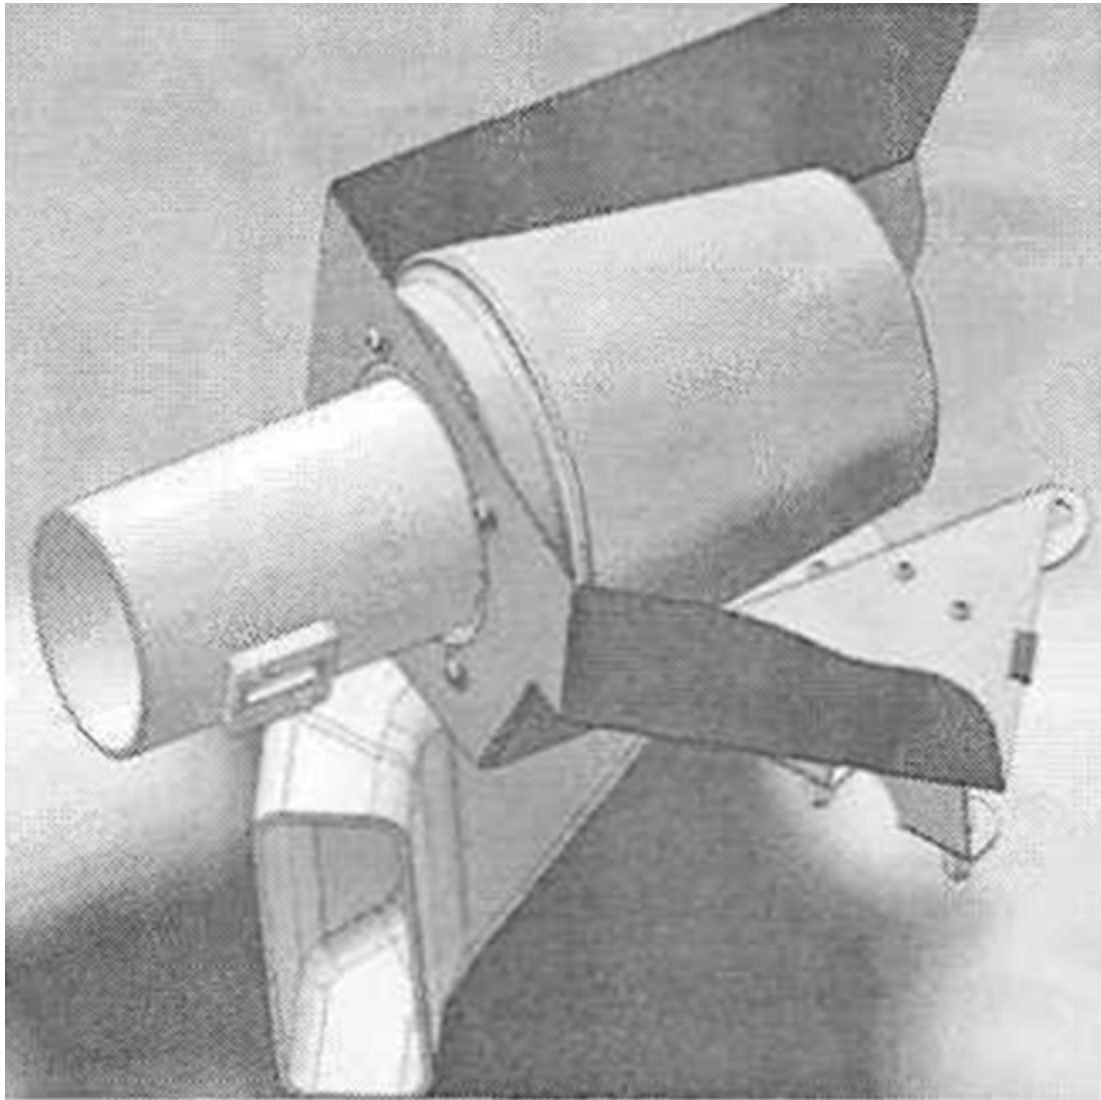

Figure 9
2. Insert the mass air flow sensor pipe with built in velocity stack to the shield by passing the tube through the hole in the shield. Bolt it together with the provided $1/10 \times 3/8$ " button head Allen screws and $3/16$ " flat washers. Make sure the Pipe is oriented so that the mass air flow sensor faces the same direction towards the front of the car as seen in Figure 9.